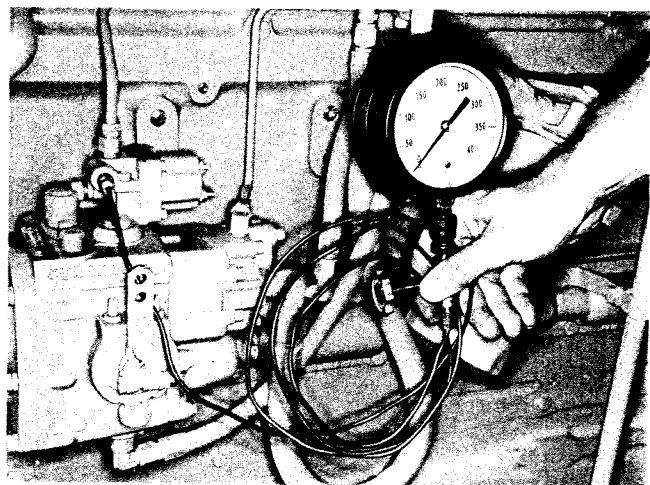

Fig. 2-35, (N11966). Checking fuel manifold pressure with ST-435
5. Check maximum fuel manifold pressure with ST-435, Fig. 2-35. Remove 1/8 inch pipe plug from side of fuel shut-off valve on top of fuel pump. Connect the gauge line in pipe plug hole.